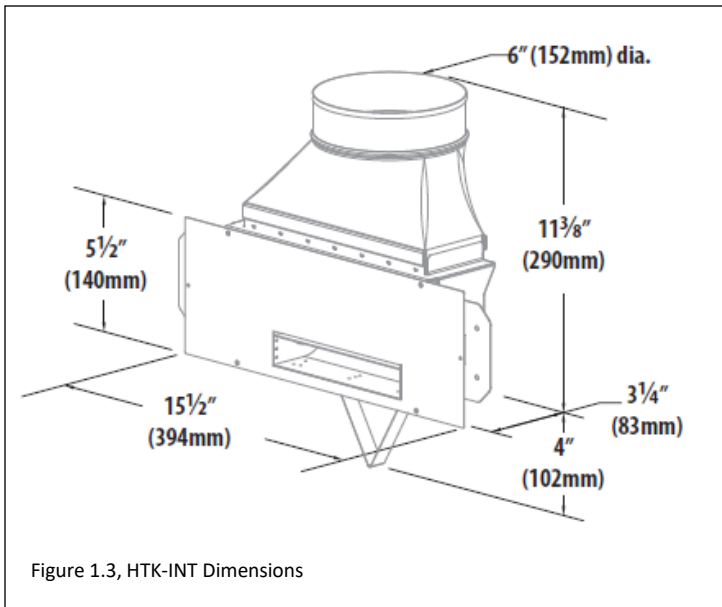

Figure 1.3, HTK-INT Dimensions
- **Figure 1.3** shows the dimension of the air discharge box with the boot attached.